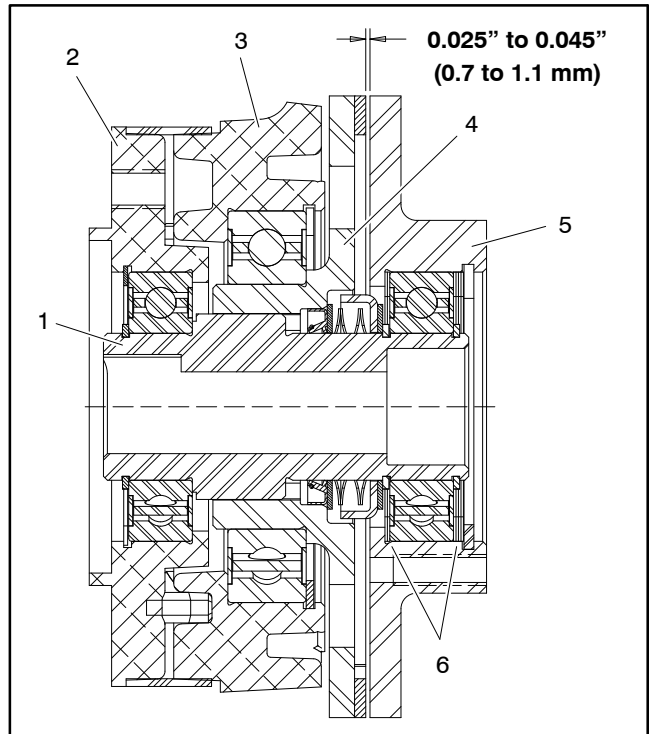

Figure 12
2. Measure clearance between thrust friction assembly and mounting plate (Fig. 12). Clearance should be from 0.025" to 0.045" (0.7 to 1.1 mm).
3. To adjust clearance, remove mounting plate (item 5 in Fig. 12) assembly and change shim locations (item 6 in Fig. 12). Moving shims from outside the bearing to inside the bearing decreases clearance. Moving shims from inside the bearing to outside the bearing increases clearance.